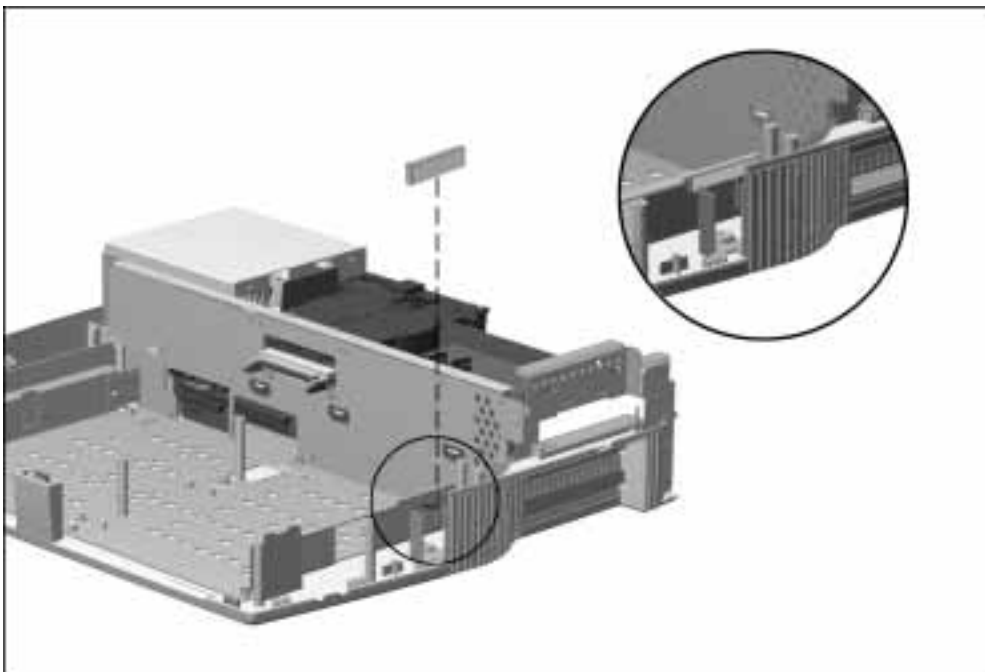

Figure 5-41. Replacing the Control Panel Spacer
1. Completely remove the old control panel spacer from the base assembly (Figure 5-41).